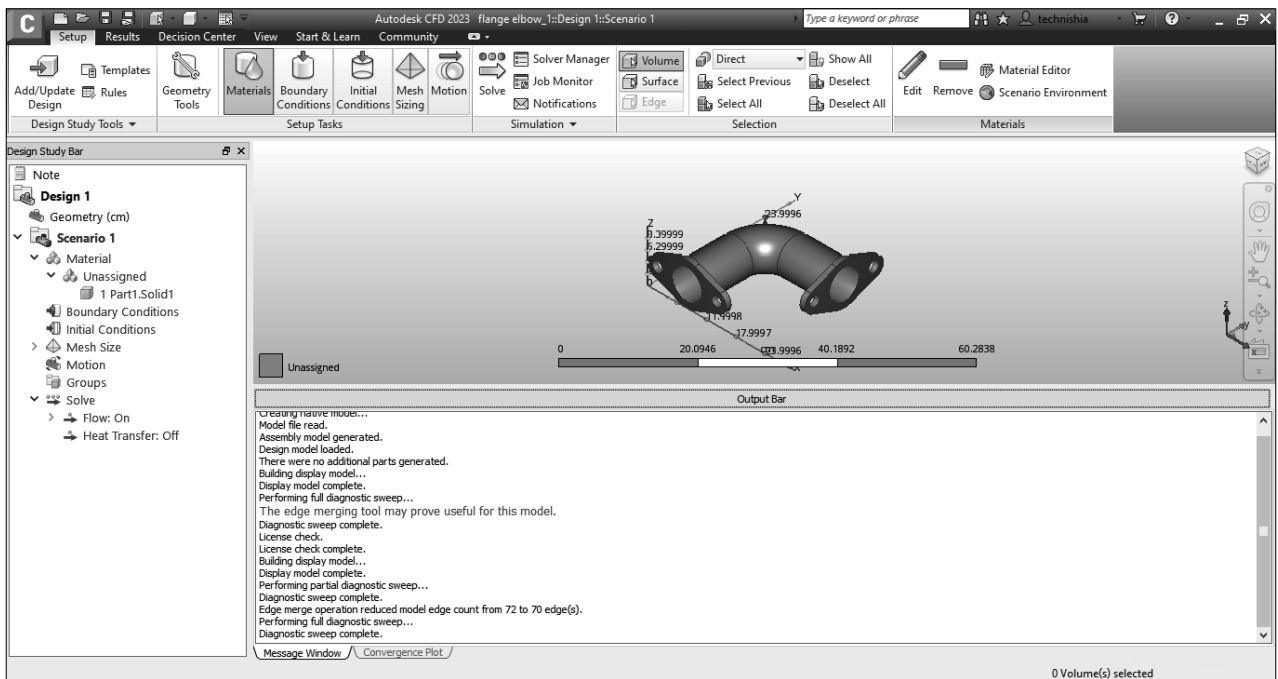

Figure-1. Welcome screen for elbow design
- Click on the **New** button from **Ribbon** and open desired part file which is compatible with Autodesk CFD to work with. The part file will be displayed along with all activated tools for creating an analysis; refer to Figure-1. The procedure to create a new analysis has been discussed in previous chapter.